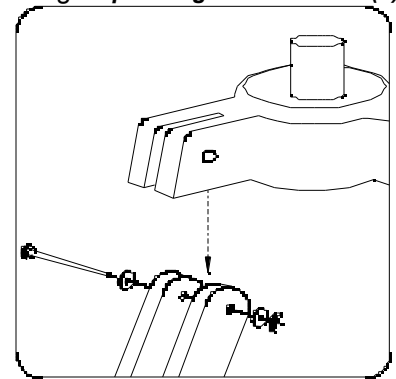

fig. 1
- Select one **Tripod Leg (5)** and extend the **Tripod Leg Middle Section (6)**. Using **Tripod Leg Lock Screws (9)** included in the hardware pack, insert the **Tripod Leg Lock Screw** into the lower brackets on the **Tripod Leg**. Tighten the **Tripod Leg Lock Screws** so that the middle section is securely in place. Repeat on remaining two legs.
- Locate the **Altazimuth Yoke Mount (3)**. **Note: Before assembling tripod legs to Altazimuth Yoke Mount, make sure the Accessory Tray Braces(7) face inward.** Locate the long bolts and washers from the hardware pack (3-2" bolts, 6-¹¹/₁₆ washers and 3-wingnuts). Position the mount over the **Tripod Leg (5)** as shown (fig. 1). and align the holes in the **Tripod Leg** with the holes in the mount. Insert the bolts through the holes at the top of a **Tripod Leg**. A washer should be positioned on both outer sides of the **Tripod Leg**. Attach a wing nut to the bolt but do not tighten it all the way. Repeat on the remaining two **Tripod Legs**. Once you have attached all **Tripod Legs** to the mount, securely tighten all wing nuts.
- Locate the **Accessory Tray (8)**. Using the accessory tray bolts, wingnuts and washers (3-" bolts, 6-" washers and 3 - wingnuts) connect the **Accessory Tray** to the **Accessory Tray Braces (7)**. Start with one **Tripod Leg** and attach wingnut. Wingnuts should be positioned beneath the **Accessory Tray**. Do not tighten wingnuts until all **Accessory Tray Braces** are attached as some adjustments may be required.